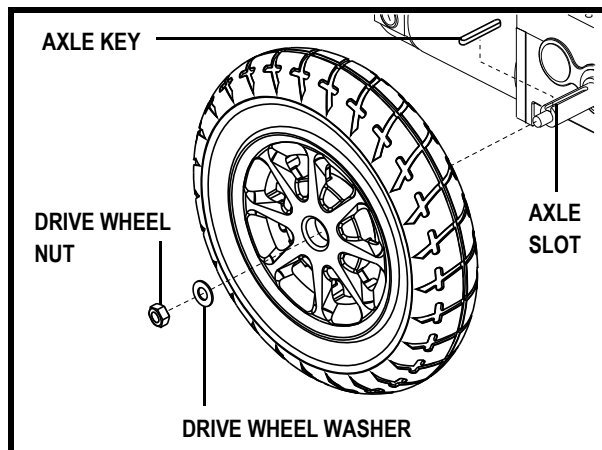

Figure 26. Drive Wheel
4. Remove the drive wheel nut and washer from the axle. See figure 26.